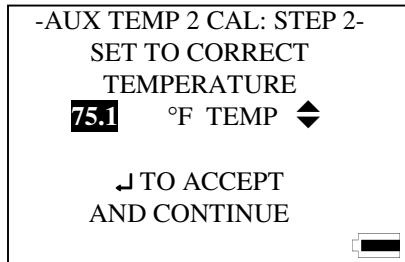

Figure 3: Auxiliary Temperature Calibration Screen
2. Put the Q-TRAK Plus monitor into calibration mode by selecting **TEMP2** in the Calibration Menu by using the ▲ or ▼ key and press the ↵ key (refer to Figure 3).